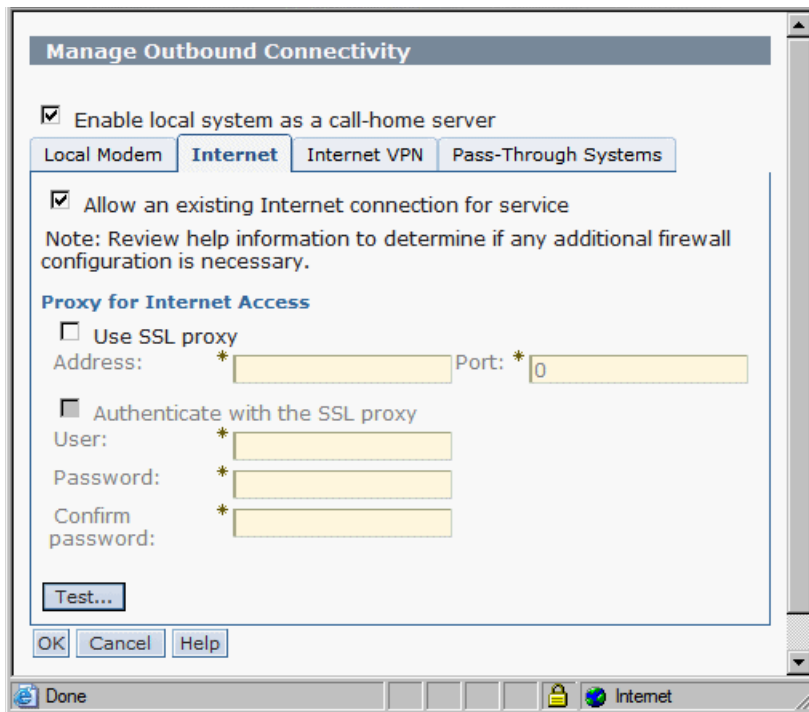

Figure 12-27 Manage Outbound Connectivity, Internet access
1. Select the Internet tab as shown in Figure 12-27.